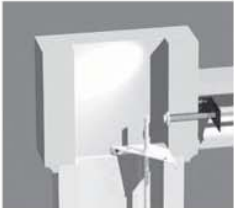

FIGURE 7C
- F) Install a 3/8" USS FLAT WASHER, a 3/8" LOCK WASHER and a 3/8" - 16 HEX NUT onto the THREADED ROD assembly. Tighten the entire assembly to 100 in./lbs. torque (FIG. 7C). This step may be completed after entire assembly process, or as each section is completed.